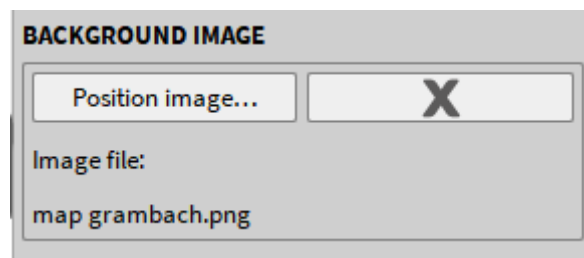

Figure 6-70: Editing the loaded image
- The positioning can be edited by clicking on *Position image* and removed by clicking on the X button (see Figure 6-70):